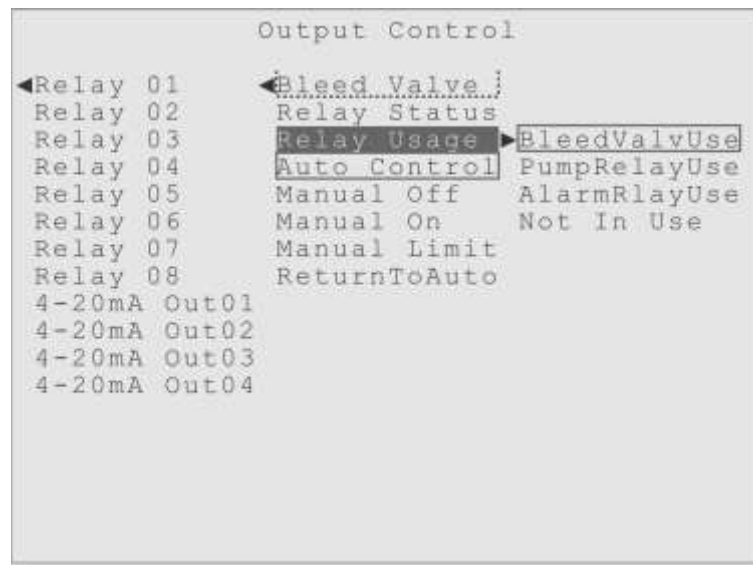

Figure 3-30. The Relay Usage menu.
- BleedValvUse** (Bleed Valve Usage): To control a Bleed Valve. (Figure 3-30)